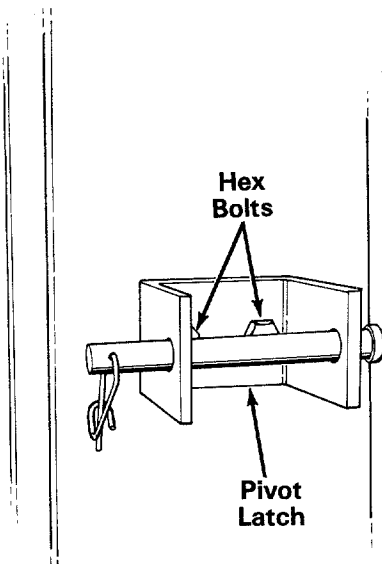

FIGURE 6
2. With the beam still in the upright position, place the pivot latch on the beam as shown in figure 6. Secure with hex bolts, lock washers and hex nuts just removed. The heads of the bolts must be inside the pivot latch.